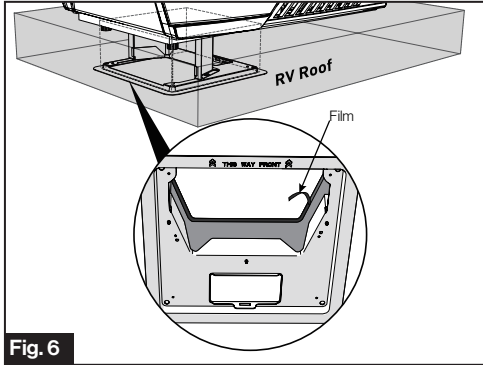

Fig. 6
5. Pull to remove the film off the double sided sticky tape on the inner side of the lower duct divider. (Fig. 6)